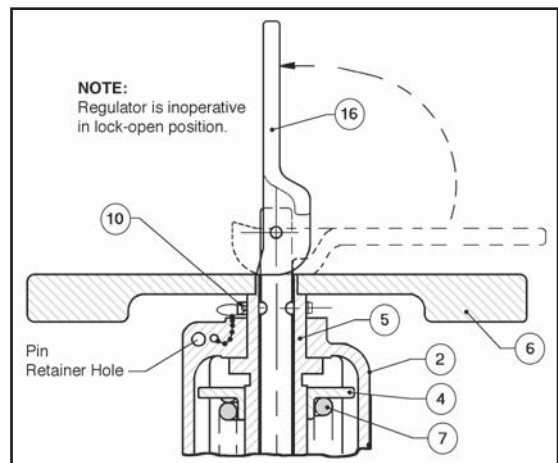

Figure 1: Spring Chamber in Lock-Open Position.
3. Lift lever (16) to vertical position. **NOTE:** Do not change range spring (7) setting by rotating T-handle (6).
4. Remove the lock-open pin (10) from the pin retainer hole in the spring chamber (2) and insert it into drilled passage through the adjusting screw (5). (See Figure 1.)